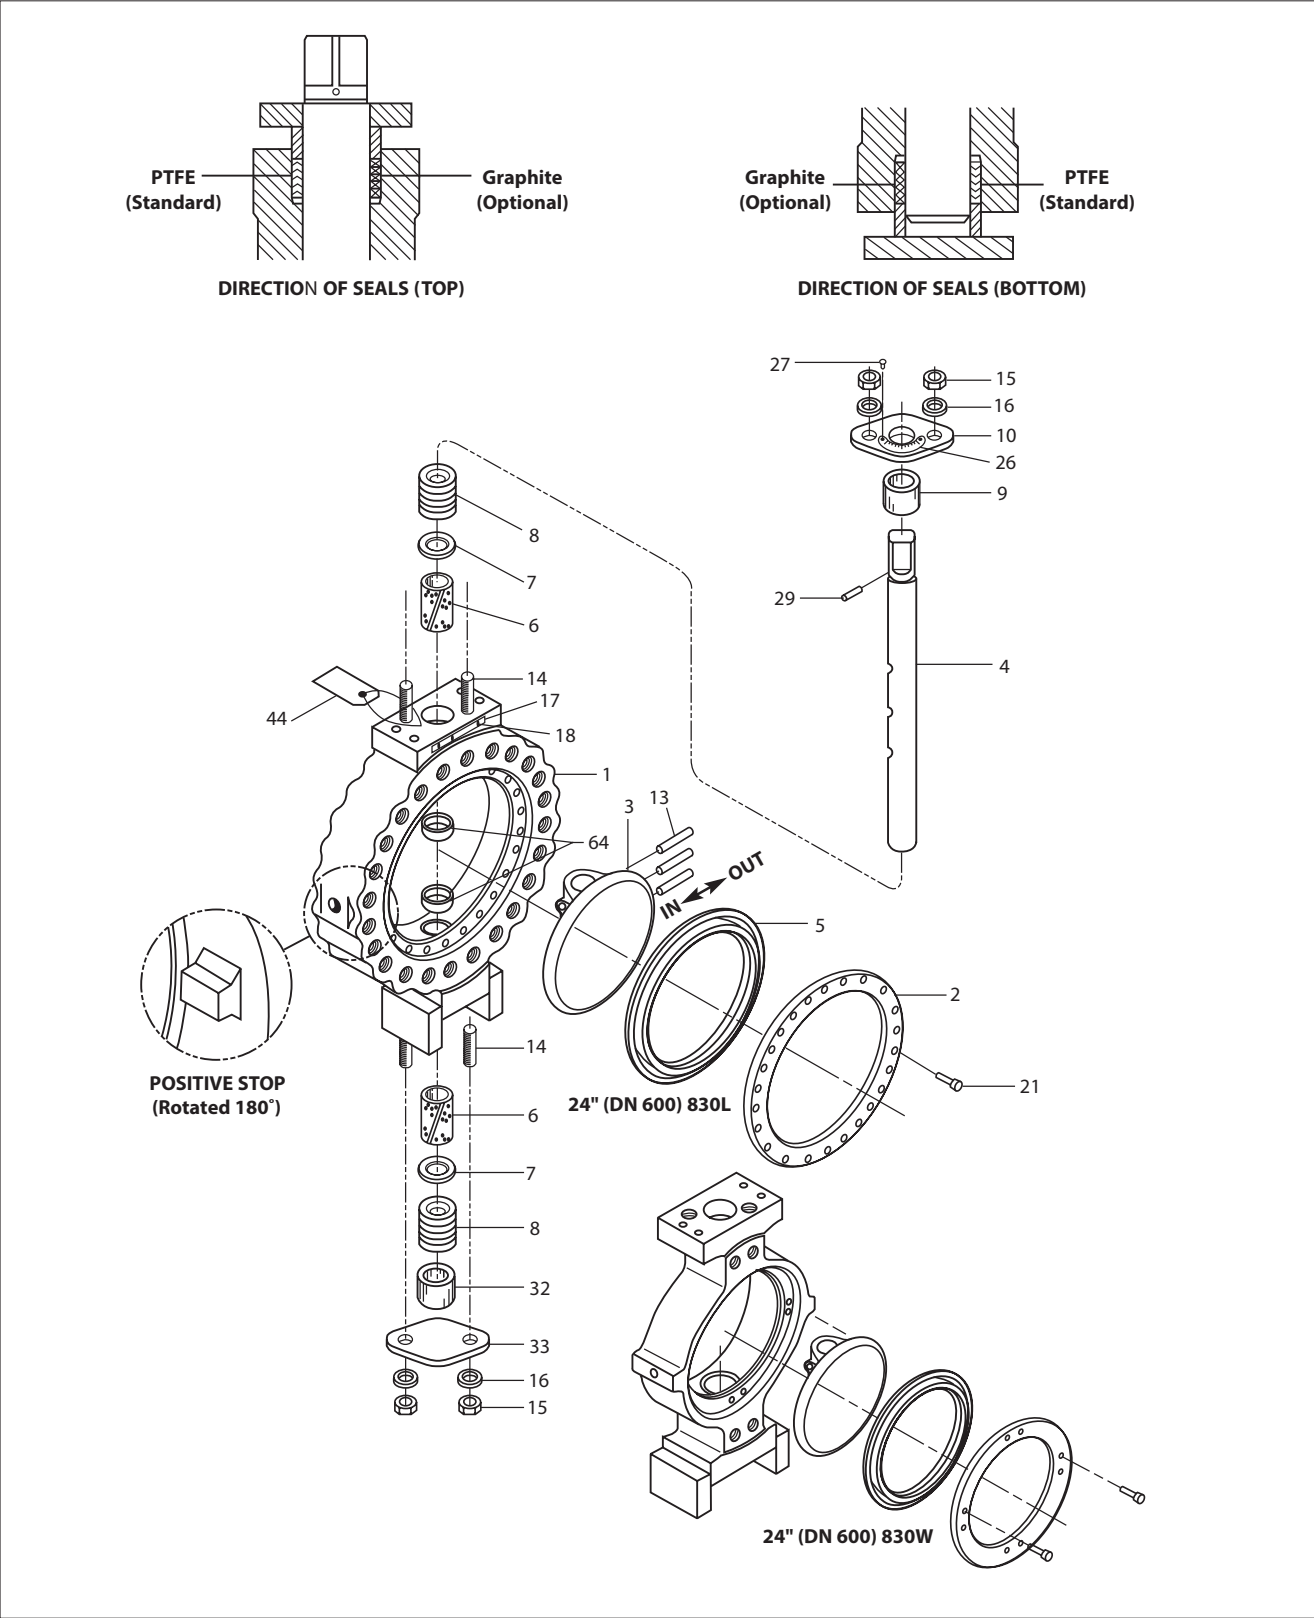

Figure 11.
3. Place the coupling onto the valve stem. If the valve has a two-piece "no-play" bolted coupling, assemble the coupling loosely on the valve stem. Use socket head cap screws and lock nuts. (See **Figure 11**).